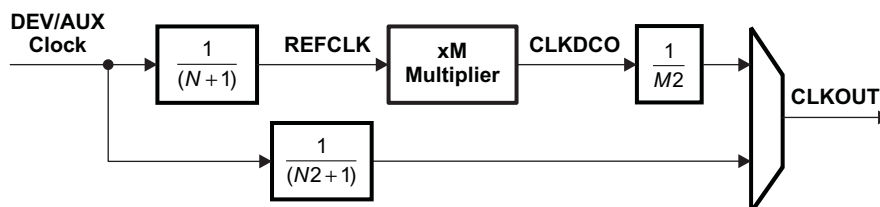
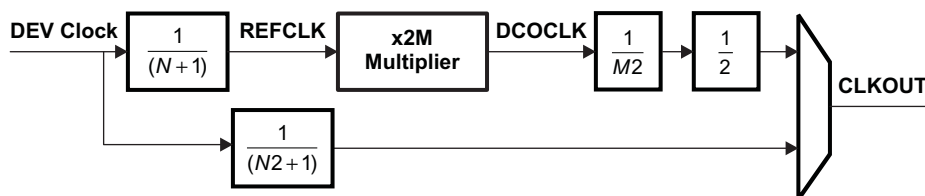

Figure 8-17. Top-Level PLL Simplified Block Diagram
Figure 8-18. PLL\_ARM Simplified Block Diagram
The device contains 12 top-level PLLs, and 4 embedded PLLs (within the ARM Cortex-A8, PCIE, SATA, and CSI) that provide clocks to different parts of the system. Figure 8-17 and Figure 8-18 show simplified block diagrams of the Top-Level PLL and PLL\_ARM. In addition, see the System Clocking Overview (Figure 8-6) for a high-level view of the device clock architecture including the PLL reference clock sources and connections.
(1) This parameter describes the limits on the programmable multiplier value M. The multiplication factor for the PLL\_ARM is equal to 2 \* M (also see Figure 8-18).
(2) The PLL Multiplier supports fractional values (up to 18-bits of fraction) except when the PLL Multiplier is < 20 OR > 2045.